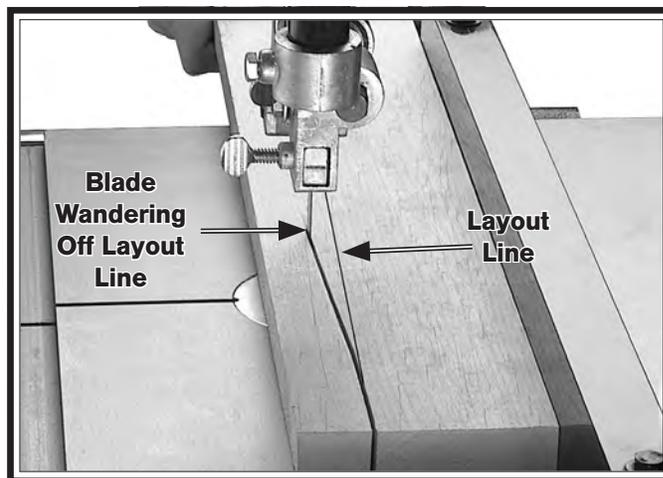

Figure 72. Example of blade lead.
Bandsaw blades may wander off of the layout line when sawing, as shown in **Figure 72**. This is called blade lead.
2. On wide face of board, draw a straight line parallel to long edge, similar to layout line shown in **Figure 72**.